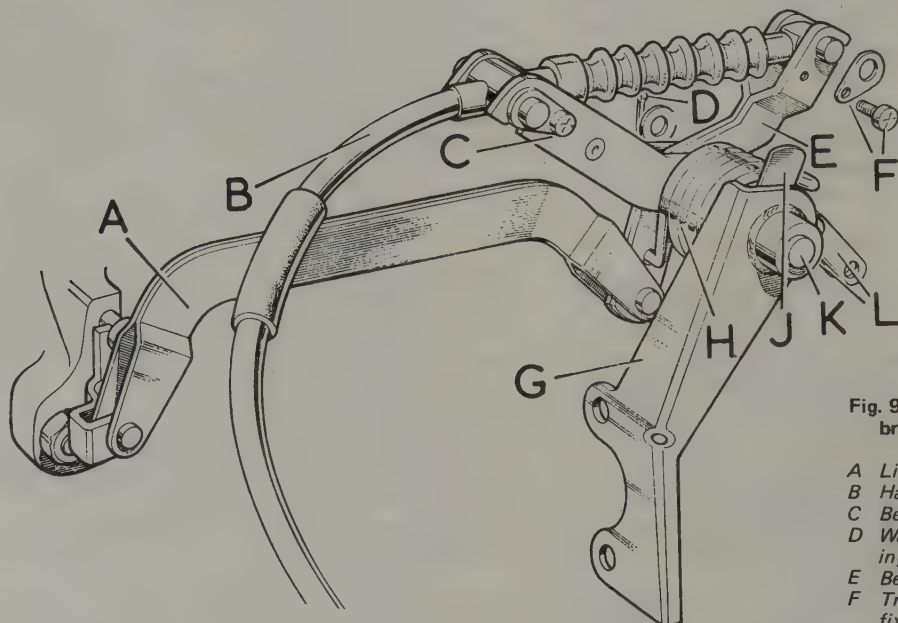

Fig. 9.33. Layout of handbrake linkage
- 1 The linkage is shown in Fig. 9.33. Undo and remove the two crosshead screws and remove together with the trunnion retainers "F" from the inner and outer bellcrank levers.